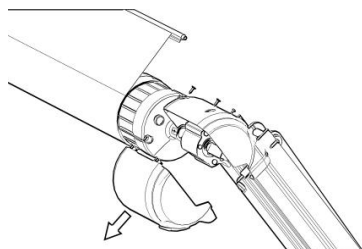
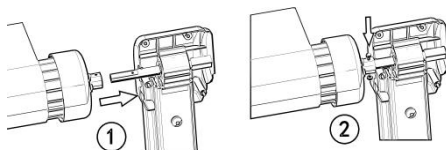
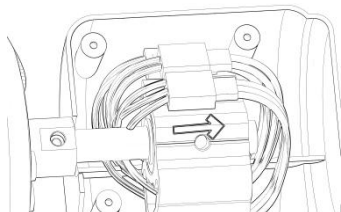

Figure C20
Figure C21
Figure C22
3.7 Open the decorative cover on the motor side of the folding arm (Figure C20) insert the awning roll tube motor side into the top bracket of the folding arm, and connect and fix it with M4*30 screws (Figure C21) Connect the motor wiring and reinstall the decorative cover. (Figure C22)